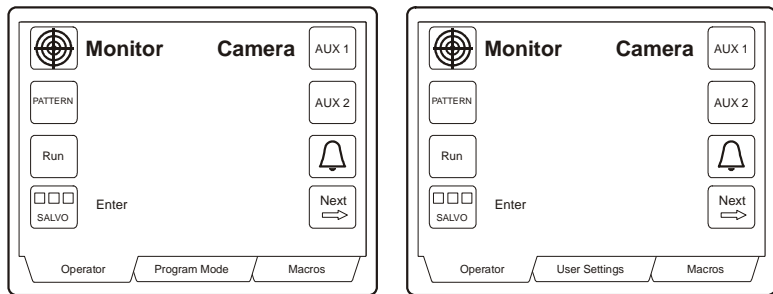

Figure 3.2: Administrator/Supervisor Menus
2. Depending on the privileges of the operator (supervisor, administrator or operator) the main menu in figure 3.2 will be displayed.
3. Depending on the privileges of the operator (supervisor, administrator or operator) the main menu in figure 3.2 will be displayed.
4. Depending on the privileges of the operator (supervisor, administrator or operator) the main menu in figure 3.2 will be displayed.